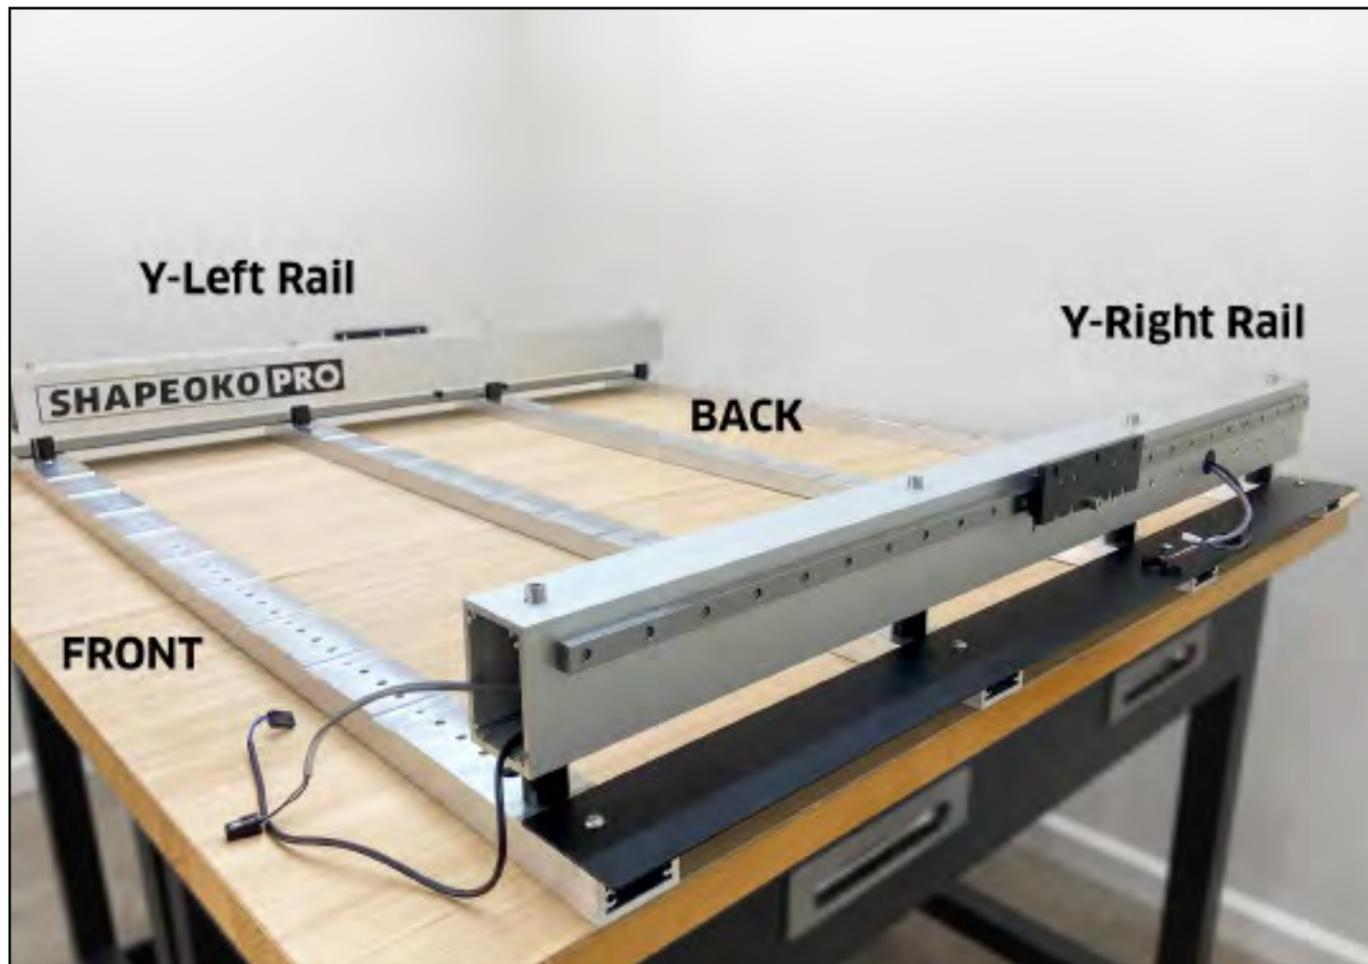
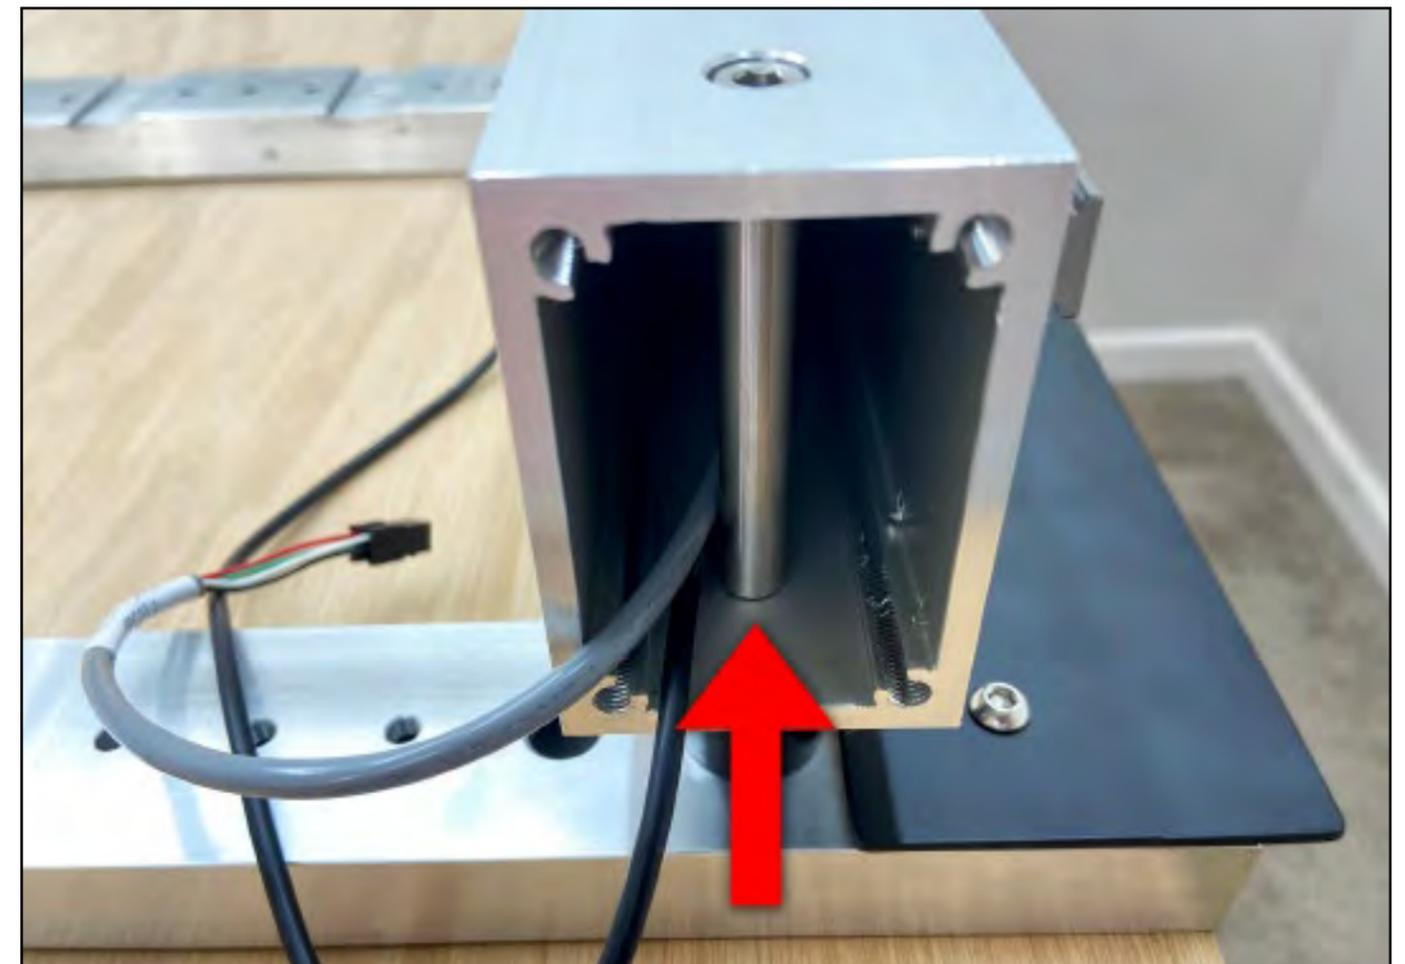

Figure 2-2
Figure 2-3
1. Position the Y-Left extrusion rail on the four standoffs on the left side of the baseframe. See **Fig. 2-2**.
2. Use a 5mm hex key and four (4) M6×85mm shoulder bolts to loosely attach the Y-Left rail to the standoffs. See **Fig. 2-2**.
- b. Ensure bolts fit snugly into the lower through-holes with the shoulder flush against the rail as shown in **Fig. 2-3**.
1. Position the Y-Right extrusion rail on the four standoffs on the right side of the baseframe. See **Fig. 2-2**.
3. Use a 5mm hex key and four (4) M6×85mm shoulder bolts to loosely attach the Y-Right rail to the standoffs.